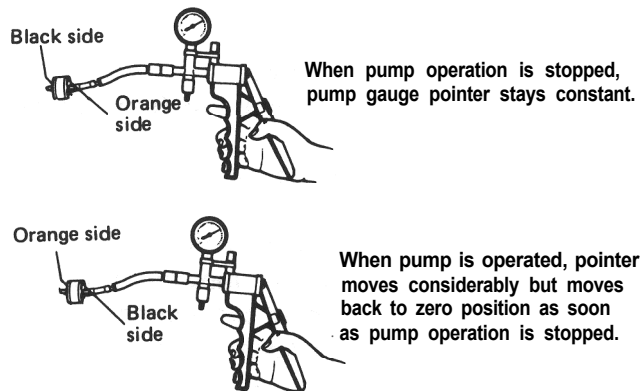

**Fig. 5-3-6 Checking thermo sensor**
- 4) Close a nozzle with finger and then blow air into nozzle. If measured temperature is above 40°C (104° F), air should come out of thermo sensor valve (valve is open) as shown in Fig. 5-3-6.